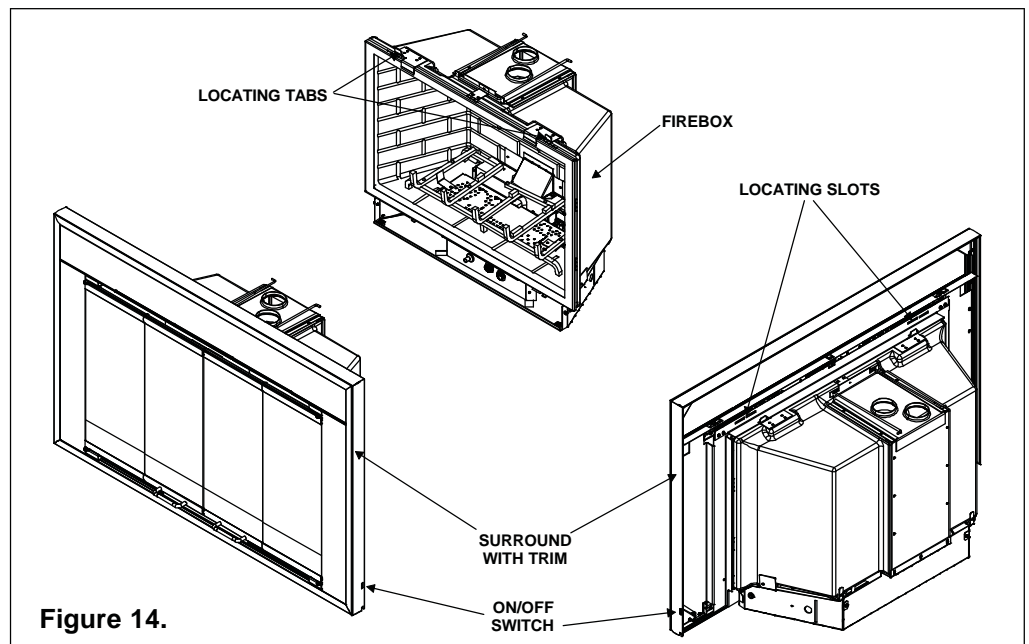

Figure 14.
1. Find the coiled low voltage wires and ON/OFF switch attached to outer right side of the insert (see Figure 14).
4. Attach surround assembly by hooking the support bracket on the locating tabs on top of the gas insert fireplace (see Figure 14.) Once the surround assembly is on the locating tabs, ensure the bottom hooks are resting on the locating pins at the base. Reposition the fireplace if necessary. Refer to surround instructions provided with the decorative surround.